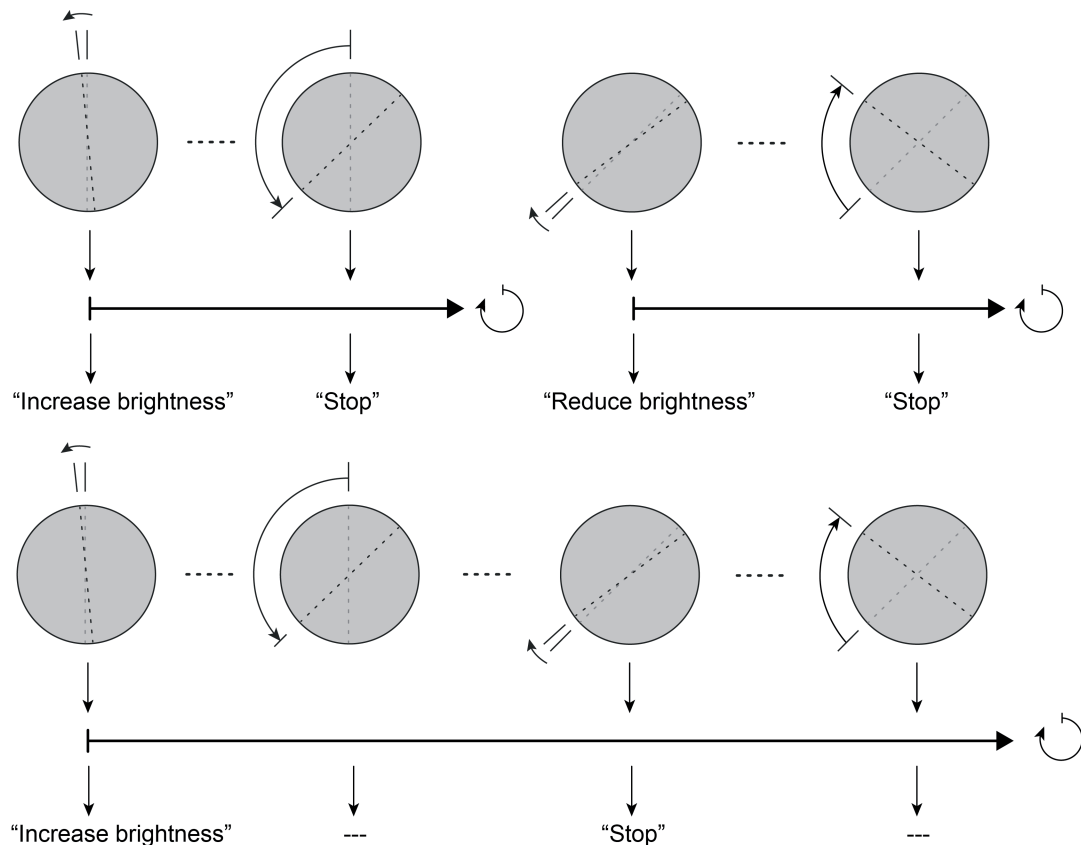

Figure 16: Example of the operation concept of the Rotary knob function "Venetian blind" in the operation concept "Dimming without OFF telegram"
- i** The behaviour of the device when increasing brightness is identical to the operation concept "Dimming without OFF telegram" (Figure 16). For this reason, the figure for the operation concept "Dimming with OFF telegram" only shows decreasing brightness and switching off.